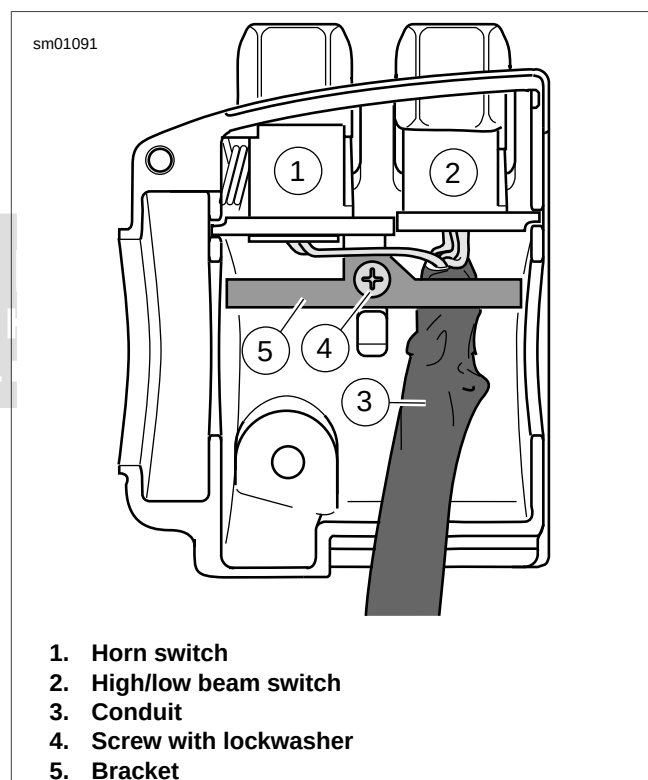

Figure 7-97. Upper Housing Without Splices
1. See Figure 7-97. From inside the switch housing, remove the screw with lockwasher (4) to release the bracket (5). Remove bracket and switch assembly from the housing.
2. Move cable conduit (3) from beneath wing of bracket. Cut wires 0.25 in. (6.4 mm) from old switches (1, 2). Discard old switch and bracket assembly.
3. Slide conduit forward over cut ends of switch wires and cut off 0.5 in. (12.7 mm) of conduit (3) material. Push conduit back to access switch wires.
4. Separate the **new** horn switch (1) and high/low beam switch (2) wires into two bundles.
splices beneath wing on high/low beam switch side of bracket as shown in Figure 7-97.
9. See Figure 7-97. Install screw and lockwasher (4) to secure bracket (5) inside housing. Verify that wing on high/low switch (2) side of bracket captures edge of conduit (3) as shown.